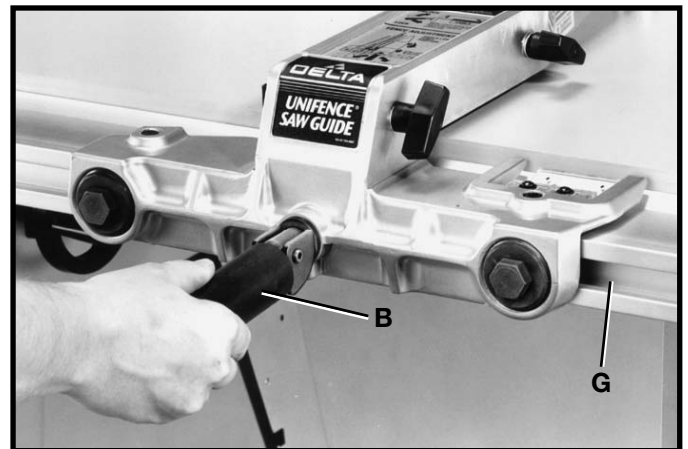

Fig. 72
3. Turn handle (B) Fig. 72, to the right indent position. This action will prevent fence clamp from sliding out of the channel (G).